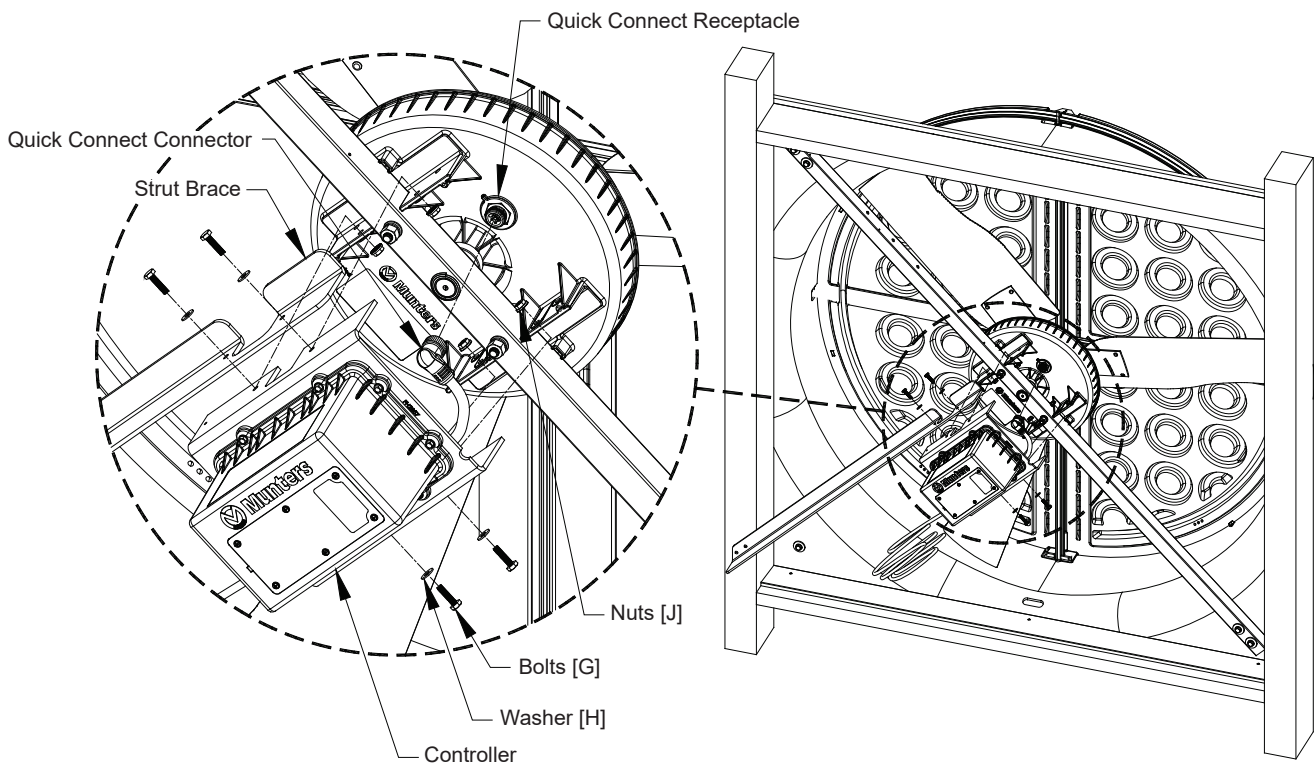

Figure 6A
Find Strut Brace in crate and remove the Controller from the foam packaging. Plug the Quick Connect Connector into the Motor and position Controller and Strut Brace over the Strut, with bottom of box toward bottom of the fan. Secure Controller and Strut Brace to Motor using (4) Bolts [G], Washers [H] and Nuts [J]. See Figure 6A.